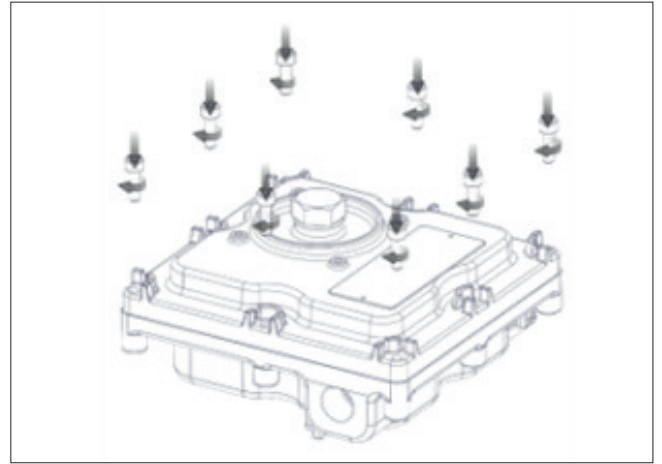
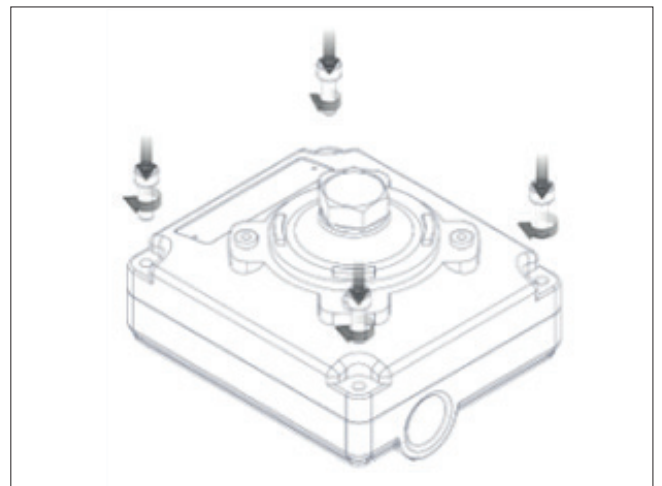

Figure 68. Assembling the Cover of (KS + PTR) Series
Figure 69. Assembling the Cover of (KC + PTR) Series
4. Before reinserting the Cover make sure the gasket between the housing and the cover is properly in its place and intact. Insert the cover on the Unit & align the cover with the housing and tighten the Cover Screw fully as shown in Figure 68 for KS + PTR Series & Figure 69 for KC + PTR Series.